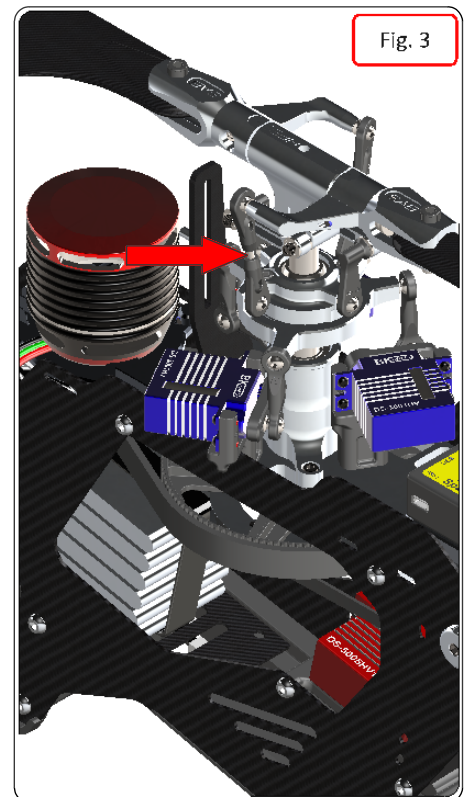

Fig. 3
- *It is important to check the correct tracking of the main blades. (Fig 3).